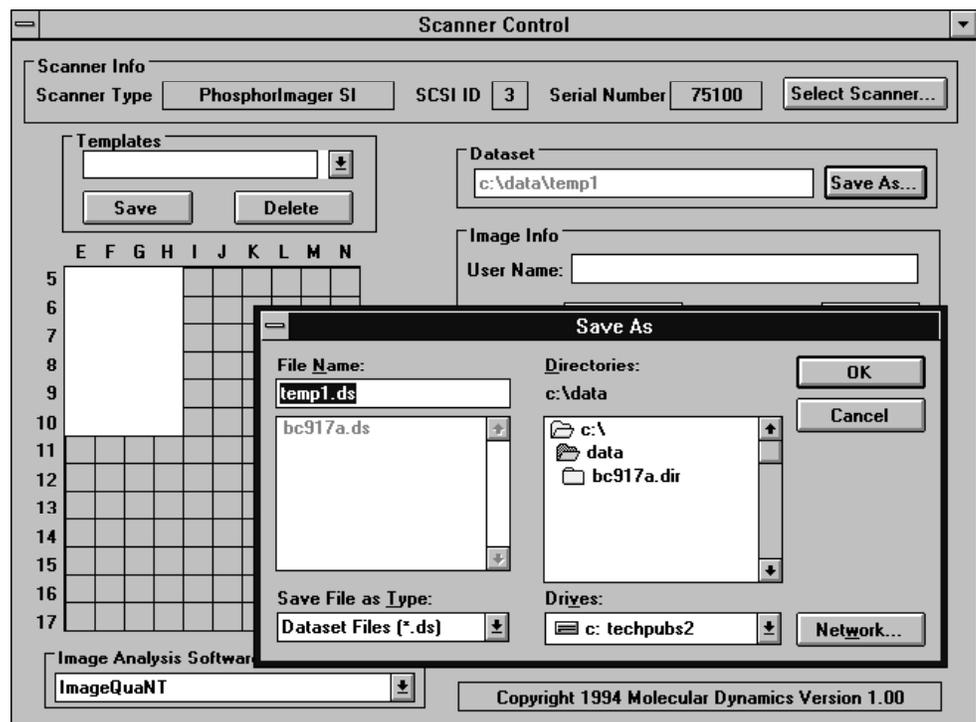

Figure 4-3. The Scanner Control window with a Scan area drawn and the Save As window displayed.
3. Release the mouse button. The Save As window appears (figure 4-3).